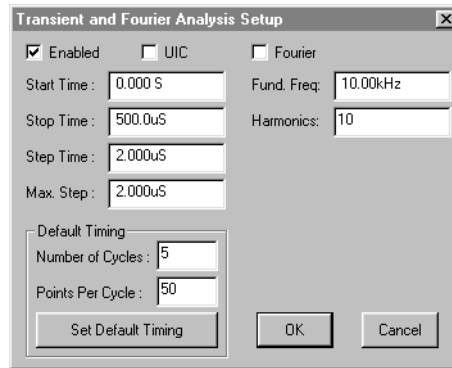
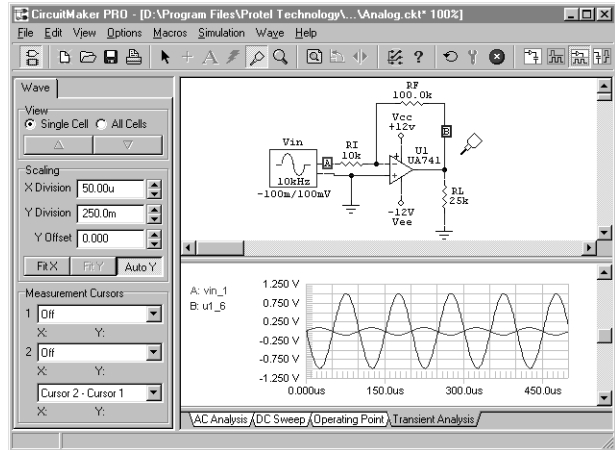

Figure 6.17. Use this dialog box to set up Transient and Fourier Analyses.
Figure 6.18. The circuit Analog.ckt, and the Transient Analysis window.
- 2 Click the **Transient/Fourier** button to display the dialog box pictured in Figure 6.17.
The waveform in Figure 6.18 was generated by simulating the Analog.ckt circuit using the values shown in Figure 6.17. This analysis shows the voltage at the test points during the time frame specified in the **Start** and **Stop** fields. Notice that the x axis shows the time in seconds, and the y axis is voltage. The larger waveform represents the voltage at the circuit output, while the smaller waveform is voltage at the source (signal generator) or input. See *Using the Analysis Window* earlier in this chapter for more information about manipulating the waveforms.